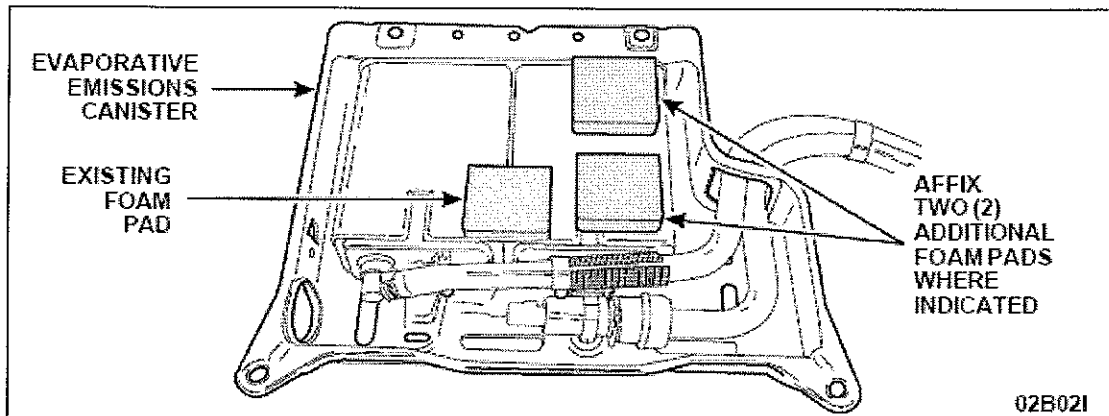

FIGURE 9
11. Remove the one (1) bolt and the two (2) evaporative emissions canister retaining nuts and lower the canister off of the studs and disconnect the canister purge valve electrical connector. Discard both removed canister bolts.
12. Remove and discard the two (2) J-nuts from the evaporative emissions canister flange.
13. Using Motorcraft Brake Parts Cleaner or equivalent and a clean shop rag, clean the top surface of the canister. Affix the two (2) self-adhesive foam pads onto the canister in the position shown in the illustration. See Figure 9.